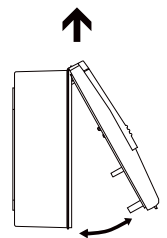

FIG. 2
- Open the equipment and separate the front part of the housing (Fig. 2).
- Mount the front part on the housing (Fig. 2).